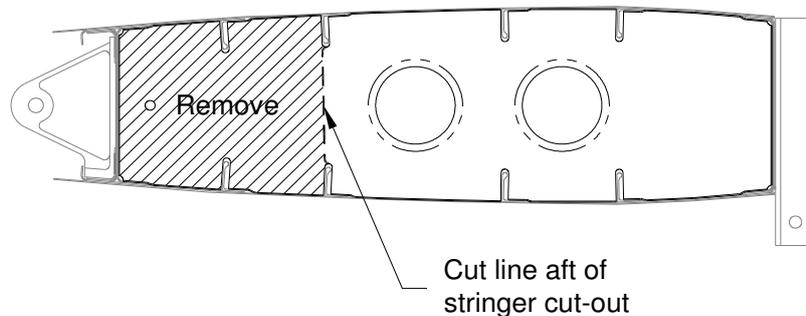

Figure 3
4.2. Cut and remove aft section of both inboard ribs at the point indicated by the dotted line in Figure 3.